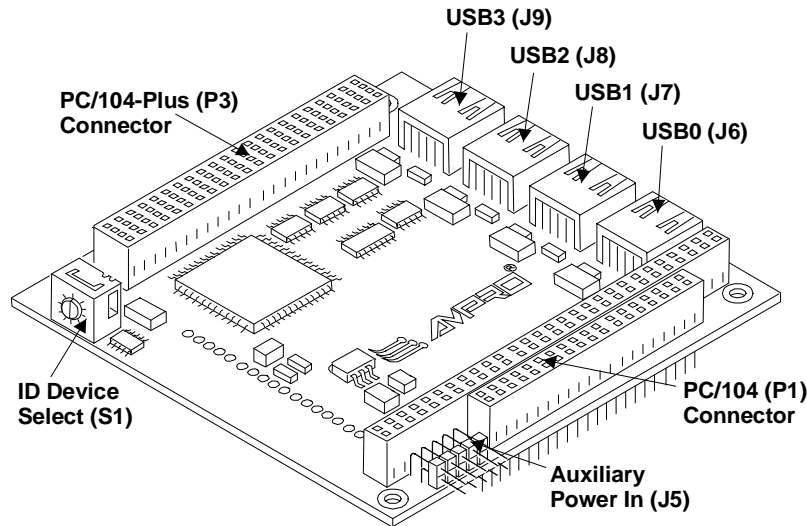

Figure 2-3. MiniModule USB2
17) Set the Device ID in the stack, if known.	The Device ID Select switch (S1) is used to configure the PCI position of MiniModule USB2 in the board stack. Refer to Figure 2-3, Table 2-1, and Table 3-3 in Chapter 3, Product Overview for more information.